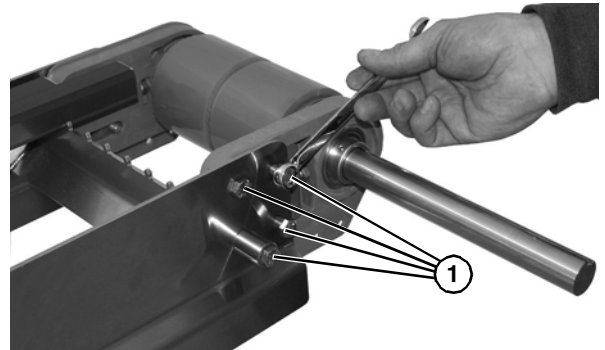
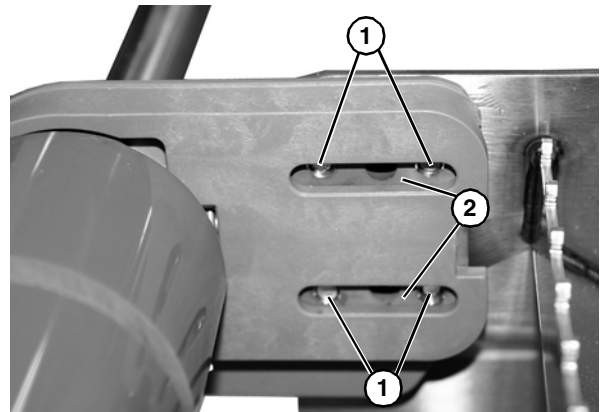

Figure 37
Figure 38
3. Loosen the four head plate bolts (**Figure 37, item 1**) so that bolts (**Figure 38, item 1**) are flush with drive tail blocks (**Figure 38, item 2**). Repeat on opposite side of the conveyor.